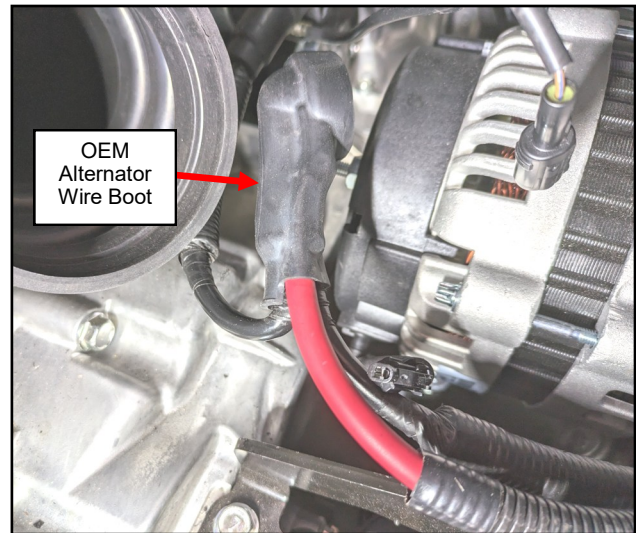

Fig. 4.6 (Push New Alternator Wire Through Boot)
- 4.6 Push the new alternator wire through the boot of the OEM alternator wire. See figure 4.6.